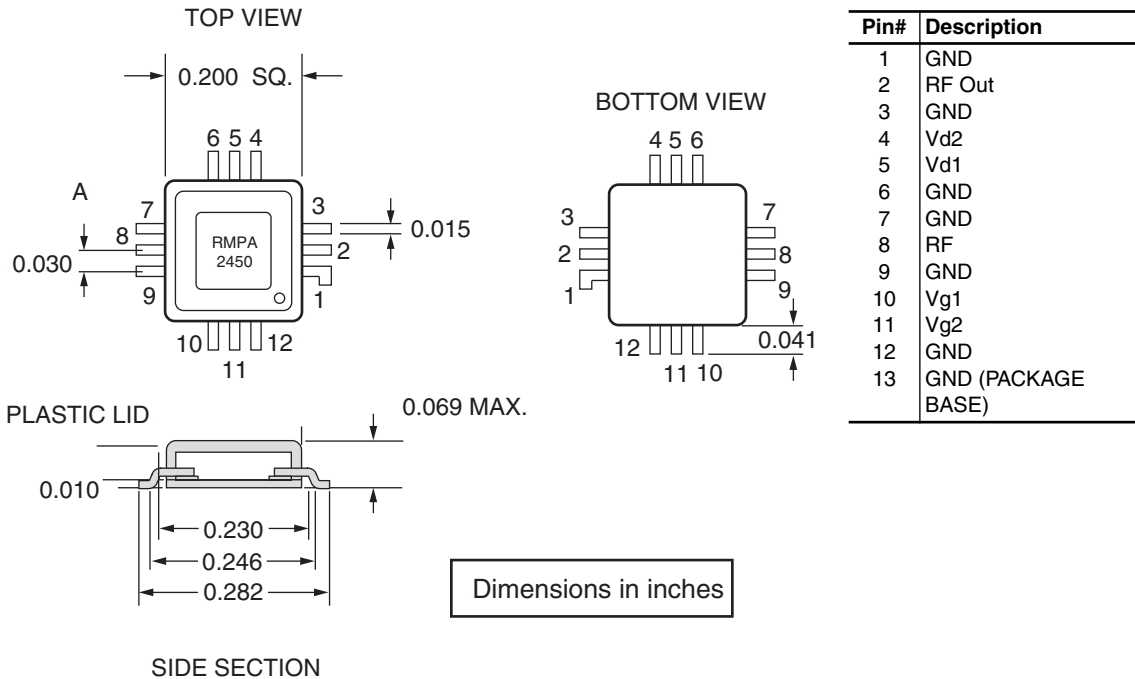
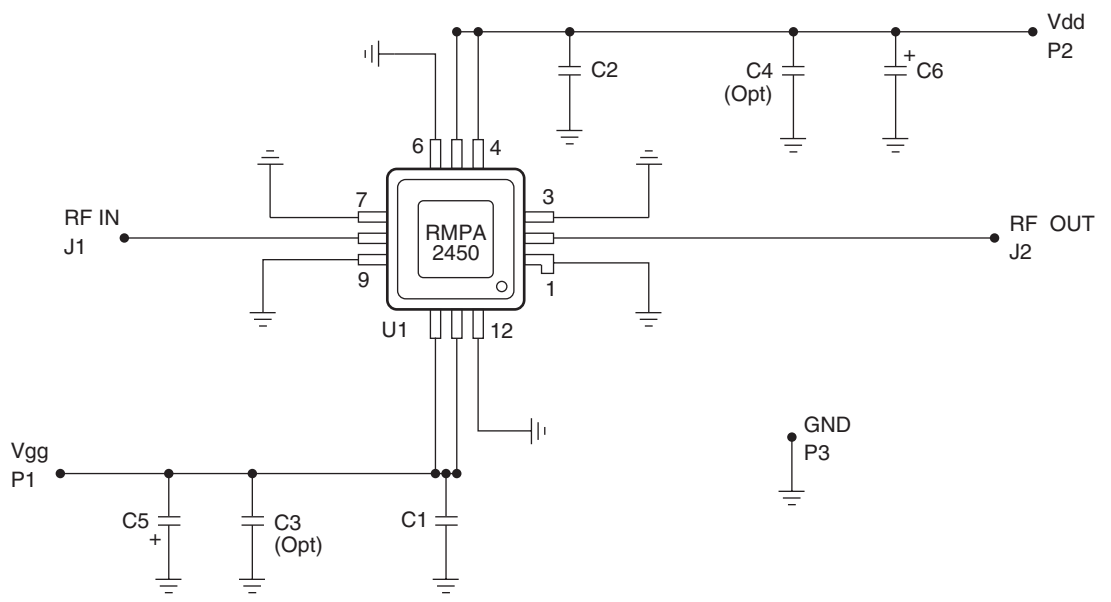
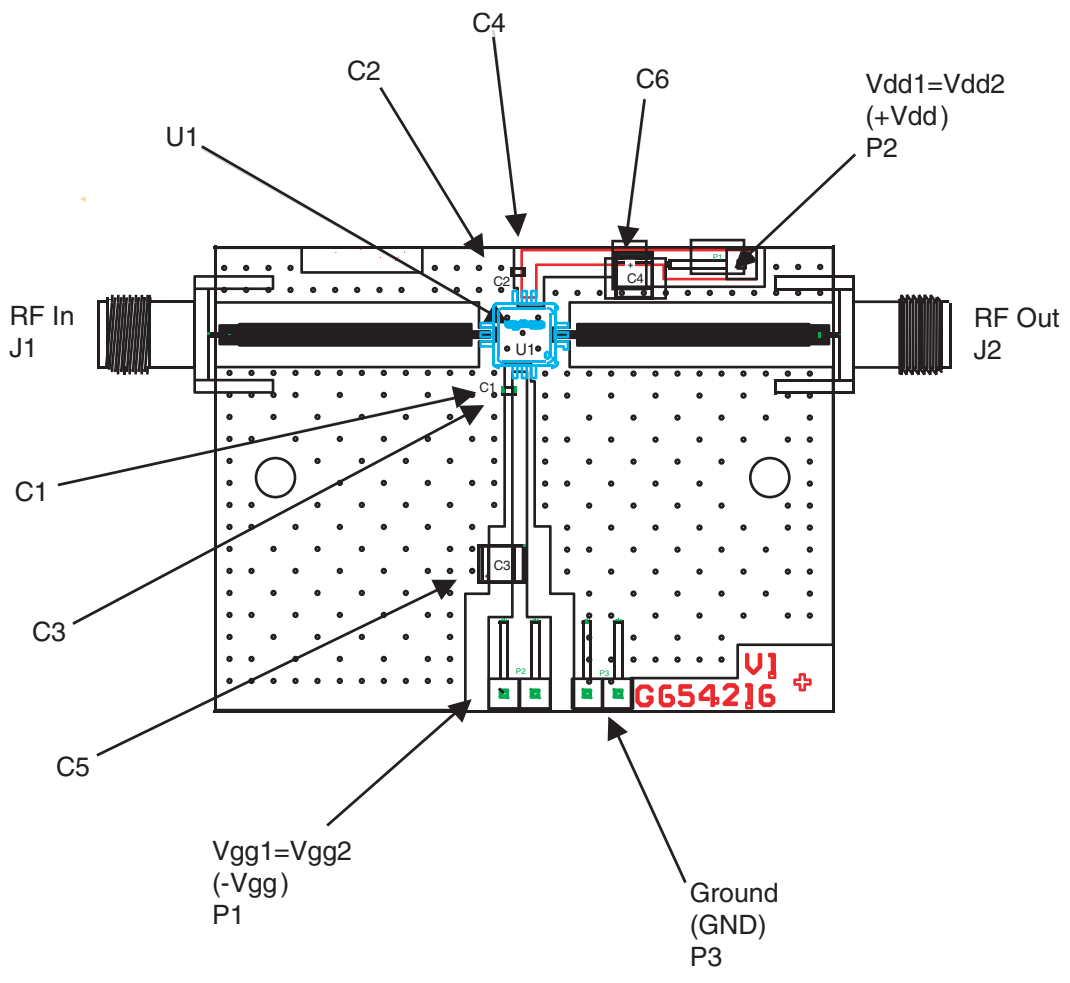

Figure 2. Outline Dimensions (RMPA2450)
Figure 3. Schematic for a Typical Test Evaluation Board (RMPA2450-TB)
Figure 4. Layout and Assembly of Test Evaluation Board (RMPA2450-TB)
Figure 2 shows the outline and pin-out descriptions for the packaged device. A typical test fixture schematic showing external bias components is shown in Figure 3. Figure 4 shows typical layout of an evaluation board corresponding to the schematic diagram. The following should be noted:
- (1) Package pin designations are as shown in Figure 2.
- (2) V_{g1} , V_{g2} are the Gate Voltages (negative) applied at the pins of the package
- (3) $V_{gg1} = V_{gg2} = V_{gg}$ is the negative supply voltage at the evaluation board terminal
- (4) V_{d1} , V_{d2} are the Drain Voltages (positive) applied at the pins of the package
- (5) $V_{dd1} = V_{dd2} = V_{dd}$ is the positive supply voltage at the evaluation board terminal